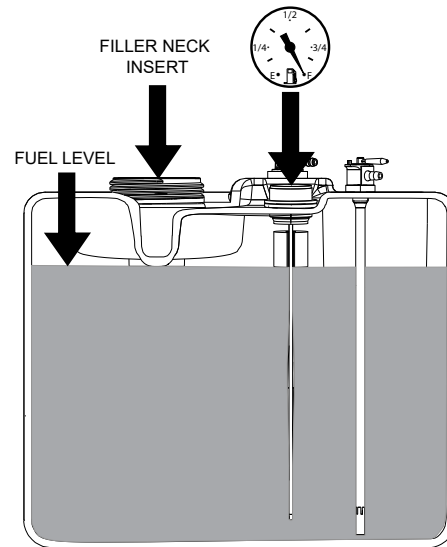

Figure 7-2. Fuel Level
Fill the fuel tank at the beginning of each operating day. Fill to the bottom of the filler neck insert (approximately 5-1/2 gallons indicating Full (F) on the fuel gauge) at the beginning of each operating day. See Figure 7-2. Do not overfill. Use clean, fresh unleaded gasoline with a minimum octane rating of 87 and a maximum of 10% Ethanol.